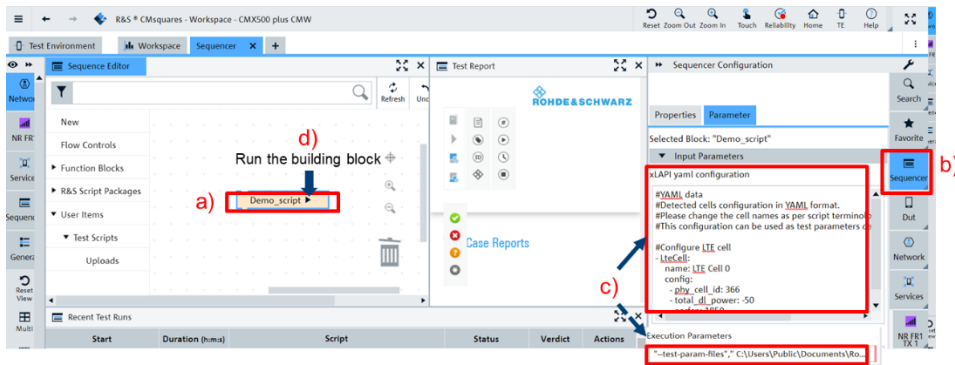

Fig. 2-27 Configure the network configuration and run the building block
4. Run the building block (see Fig. 2-27)